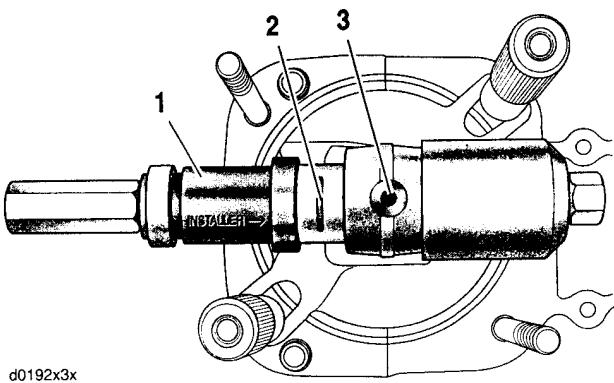

Figure 3-124. Installer Stackup
1. Slide receiver cup (6) onto threaded rod (2) with the closed side facing nut (7).
3. See Figure 3-124. Slide new bushing down threaded rod. Start bushing into bore. Verify that center of slot in bushing (2) is aligned with oil hole in connecting rod (3). Also, be sure that bushing is square in bore and not cocked.
4. Slide installer side of driver (1) down threaded rod until shoulder contacts bushing. The driver is stamped to ensure proper orientation.